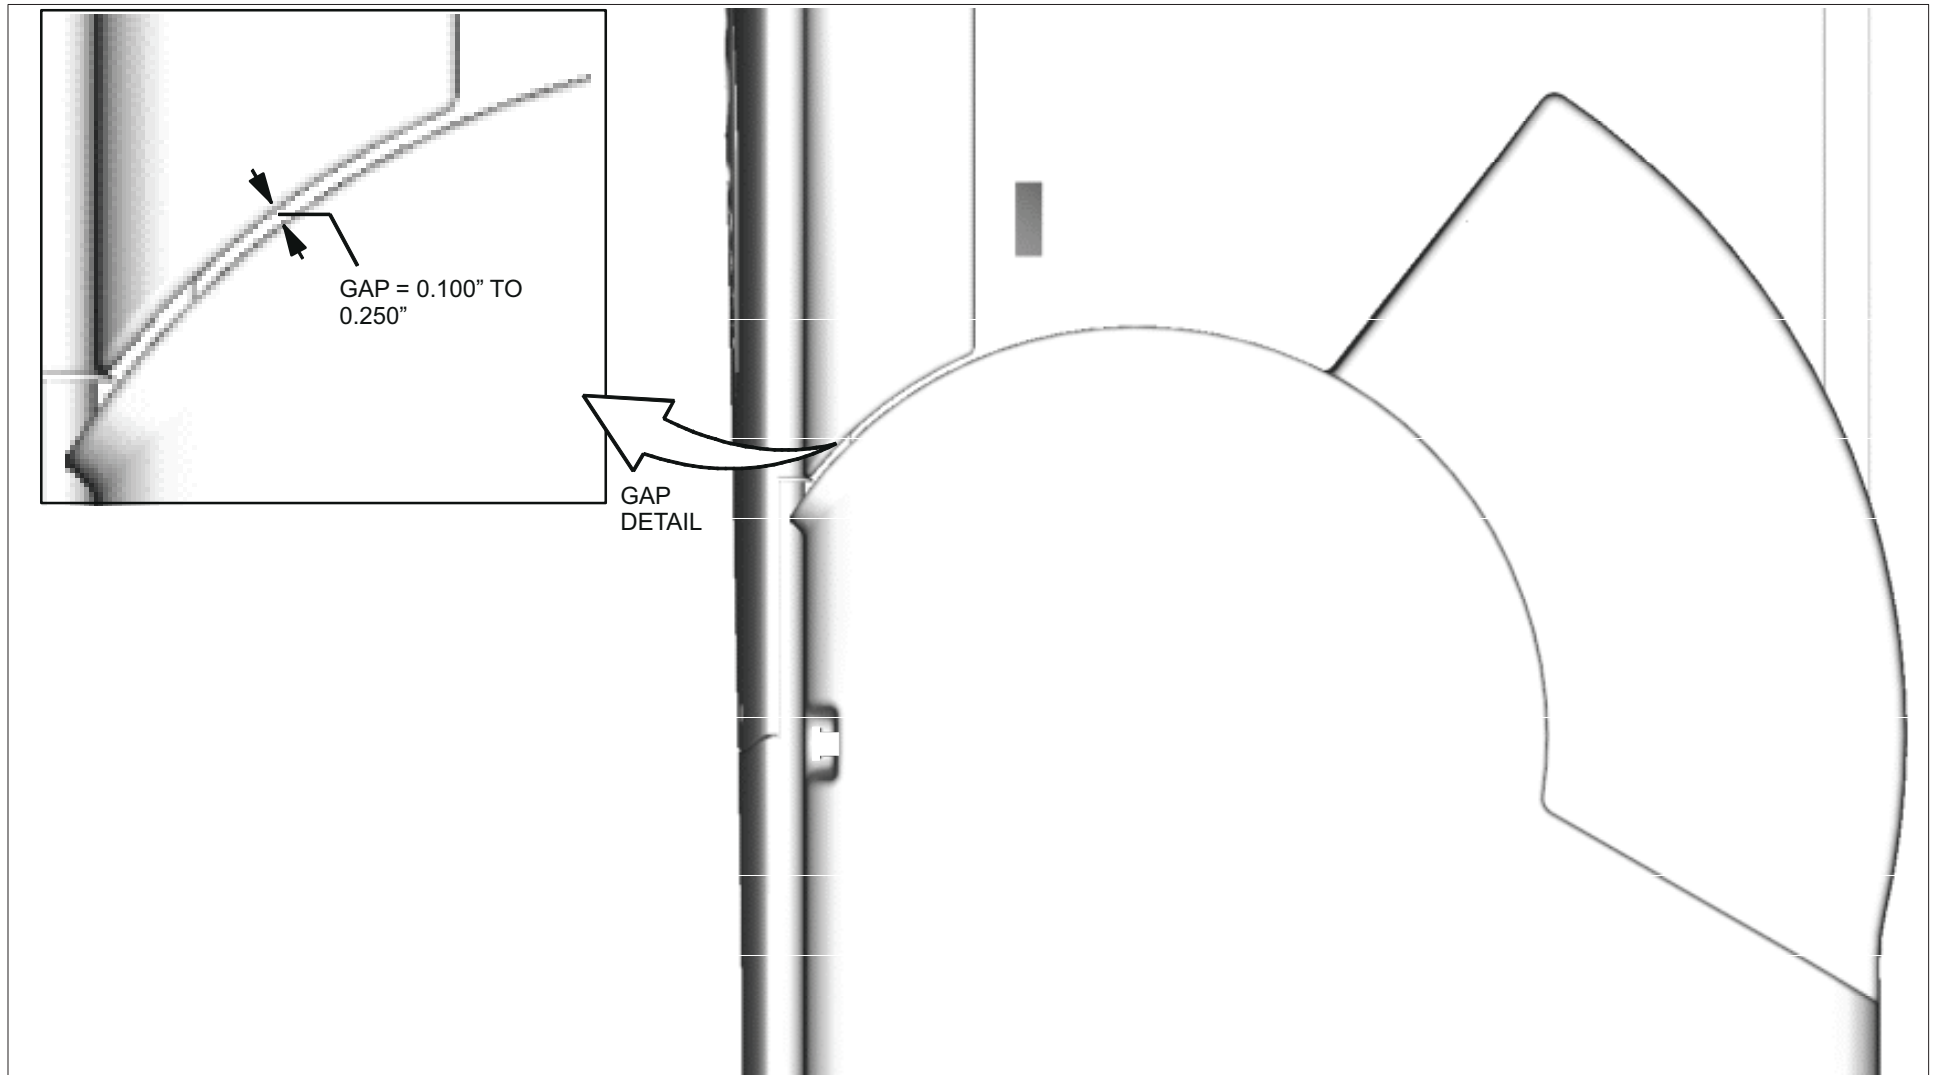

FIGURE 234 GAP BETWEEN SIDE COVER AND FRONT UPPER COVER
8. Check the clearance between the Lower Right Column Cover and the Front Upper Cover as shown in Figure 234. It should measure between 0.100 to 0.250 inch. If the gap measures within the allowable range, assemble the Lower Left Side Cover (p/n 312865) in the same fashion as the right cover. If not, continue to step 9.